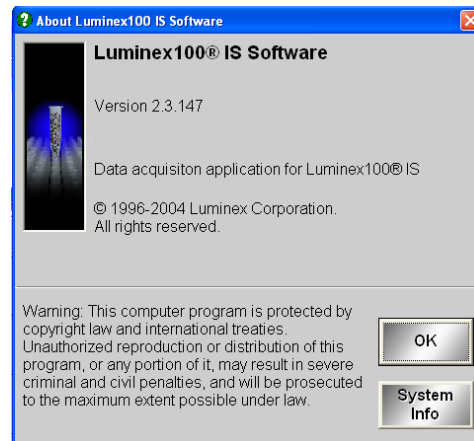

Figure B-16 Software Information Window
2. Verify software upgrade information. From the Help menu, click **About the Software**. The About Luminex 100 IS Software dialog box opens. Verify that the version number on your screen begins with 2.3, as shown in Figure B-16. The numbers after the 2.3 do not need to match those in Figure B-16.